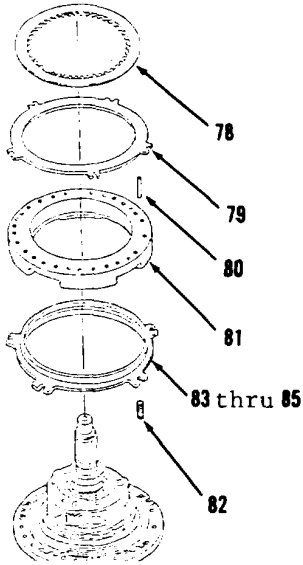
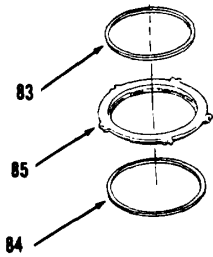

Figure 14-60.
Figure 14-61.
- 38. Remove three pins (71) and plugs (77), if necessary, from shafts (72).
- 39. Remove two discs (78), one plate (79), five dowels (80), housing (81) and ten springs (82, Figure 14-60).
- 40. Remove items 83 thru 85 as an assembly.
- 41. Remove rings (83 and 84) from piston (85, Figure 14-61).